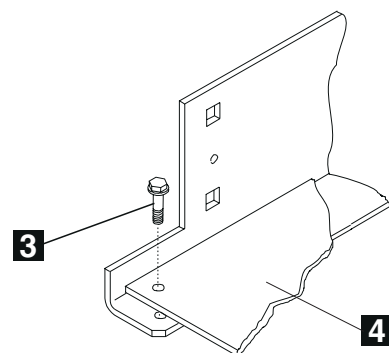

Figure 5. Installing Plate (PN 58G5755)
- 5. On the brackets installed for the display or the Service Processor, install plate **4** (PN 58G5755) using four screws **3** (PN 1621230) (see Figure 5).